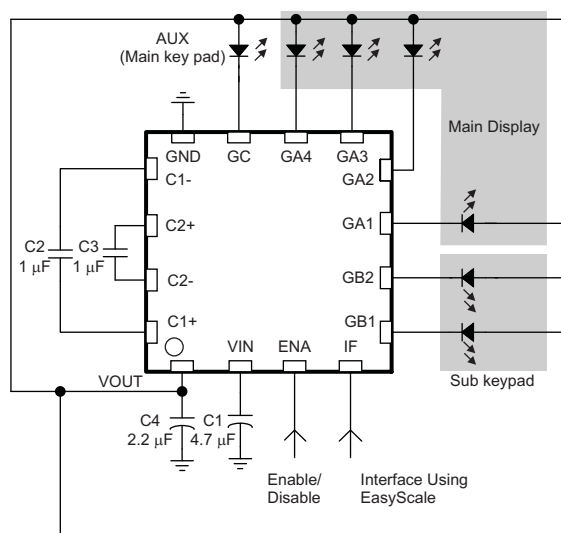

Figure 18. Application Circuit—Slide Mobile Phone Design
- **Slide** (Figure 18)—application circuit for driving four LEDs for LCD display backlight and LEDs for both sub- and main keypad backlight.